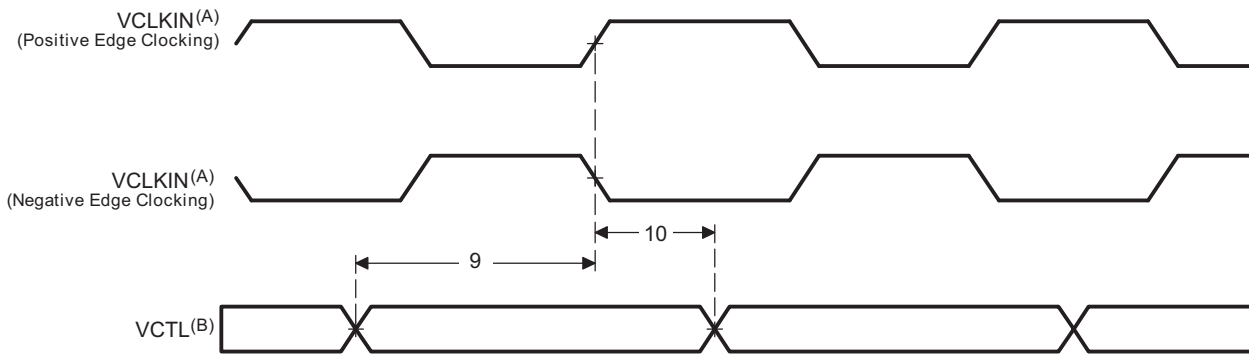

**Figure 6-35. VPBE PCLK and EXTCLK Timing**
**Table 6-51. Timing Requirements for VPBE CLK Inputs (see Figure 6-35)**
(1) For timing specifications relating to PCLK see Table 6-44, Timing Requirements for VPFE PCLK Master/Slave Mode.
**Table 6-51. Timing Requirements for VPBE CLK Inputs (see Figure 6-35) (continued)**